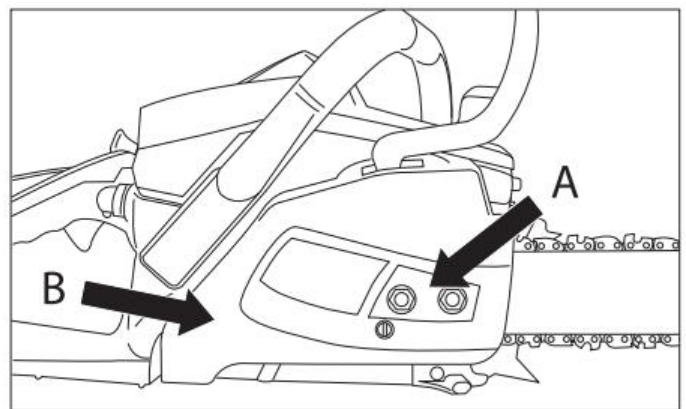

Fig.4
3. Unscrew the two nuts (A) securing the protective cover. Remove the protective cover (B) (fig. 4).